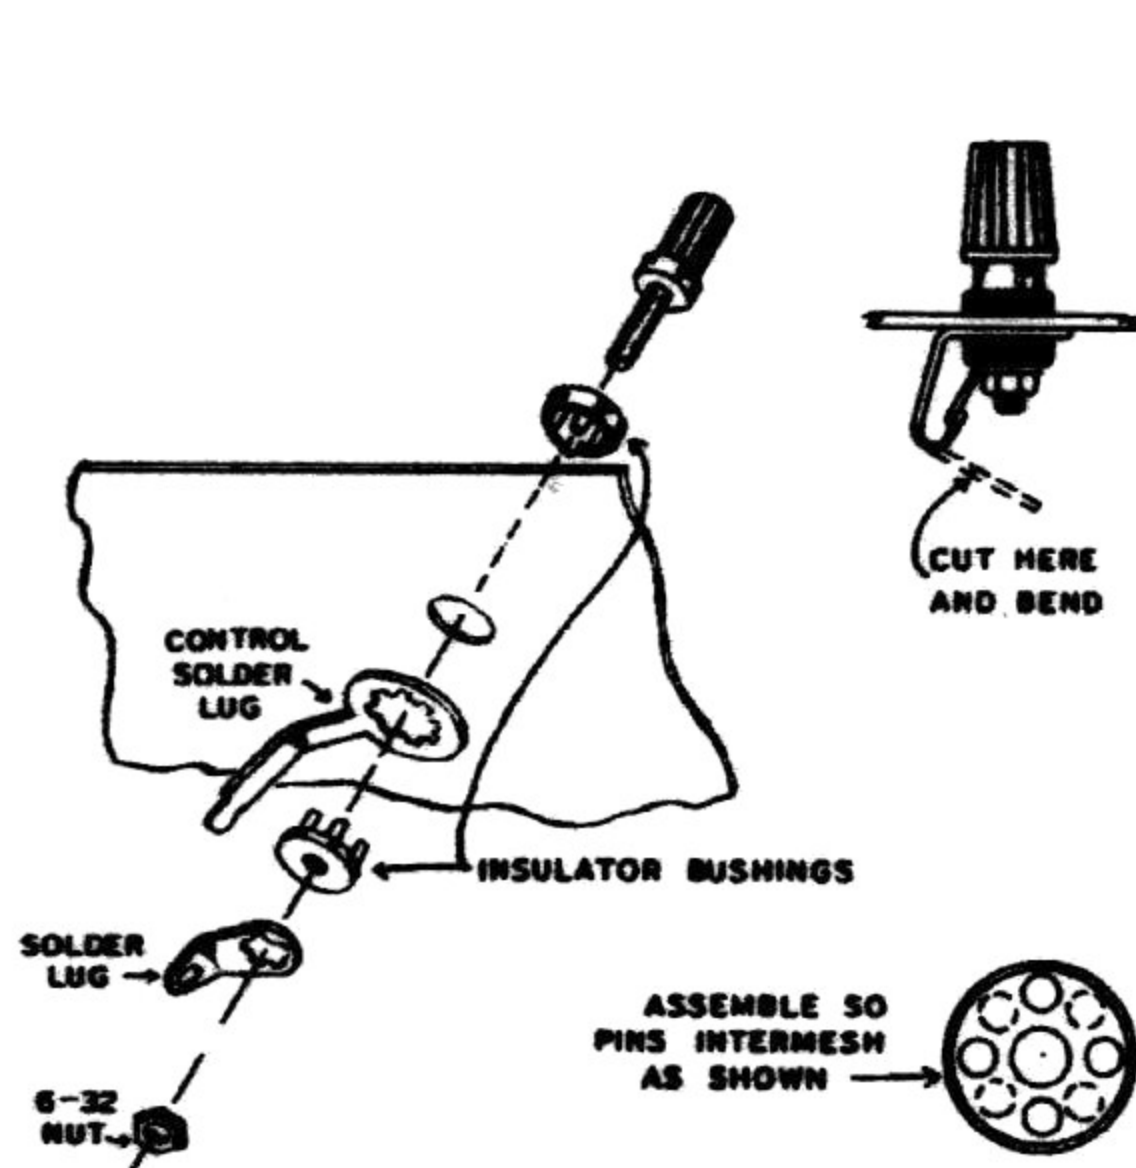

Figure 6
- ( ) Install the binding posts. Use binding post base, insulator bushings, solder lug and 6-32 nut. See Figure 6. On the one nearest the edge of the panel, include a larger control solder lug between the bushing and the inside of the panel.